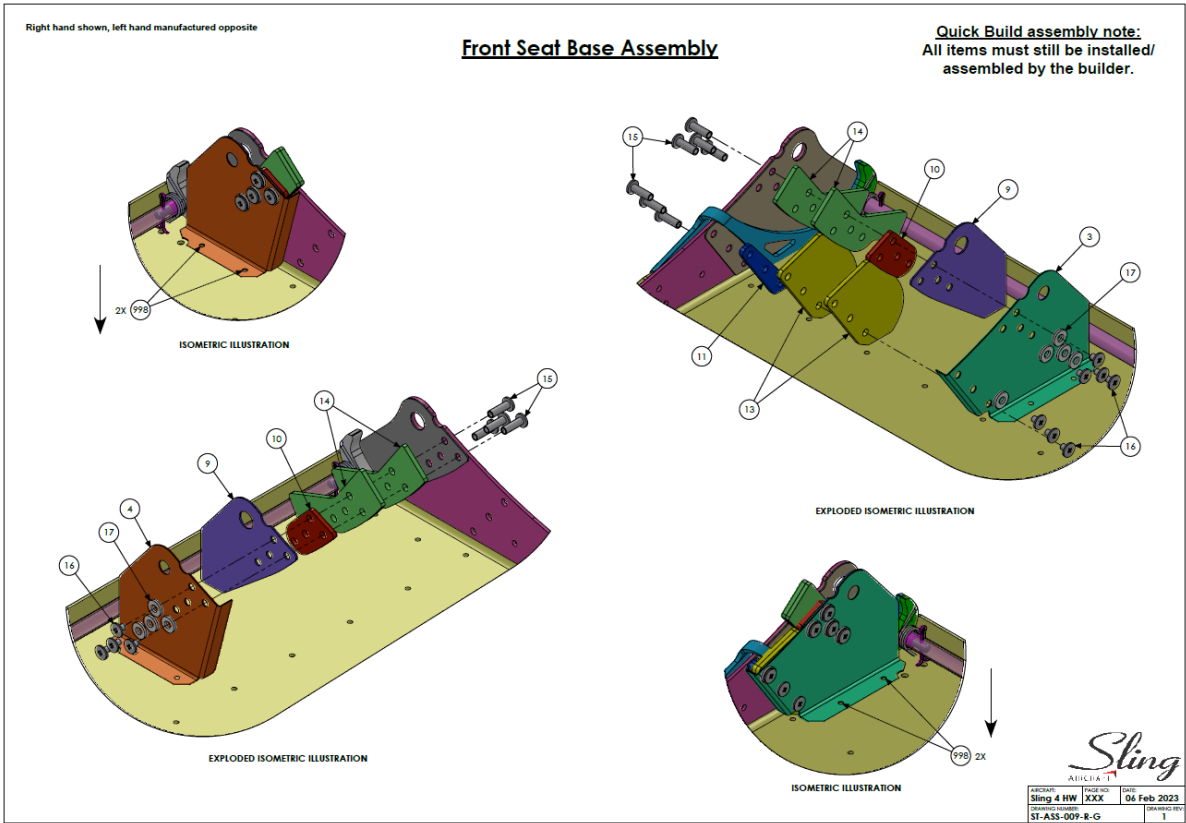

Figure 4: Revised Assembly Instructions (Detailed)
- Step 4: Install the new backrest stopper plates (revised Item 14) with the previously removed Items 10, 11 and 13 as shown in Figure 4.
- Step 5: Reinstall and securely tighten all screws (item 15 & 16). Use Loctite 243 (blue) to secure screws.